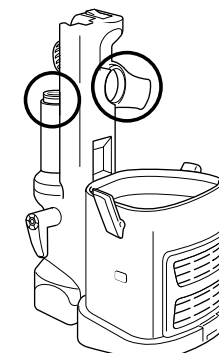

Fig. 31
- Remove the dust cup and extension wand and separate the portable Lift-Away canister from the motorized floor brush. Look in all 4 openings for any blockages. **(Fig. 31)**